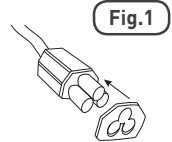

Fig.1
-  WHEN USING THE HEATER IN AN AREA WHERE IT MAY COME INTO CONTACT WITH WATER, AND TO ENSURE IT'S IP44 RATING IS MAINTAINED - ALWAYS ENSURE THAT THE POWER CABLE HAS THE BLACK FOAM GASKET IN PLACE ON THE CONNECTOR END BEFORE PLUGGING IT INTO THE SLIMLINE HEATER [FIG.1]